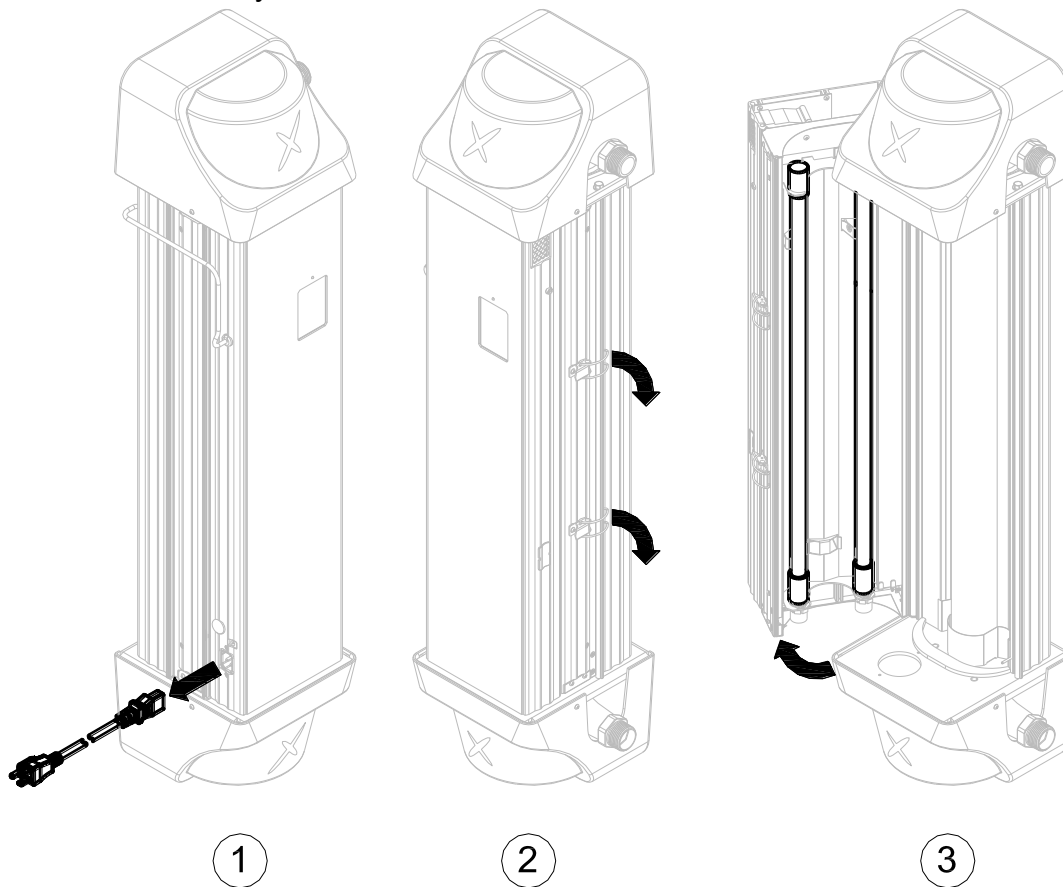

Figure 7.2
Step 2: See Figure 7.2. Open the UV Chamber by undoing the over-the-center latch (may be more than 1). Note where the latch wire engages the extrusion feature – it must be re-latched in same manner.
Step 3: Examine the quartz sleeve both inside and out – See Figure 7.2. If it